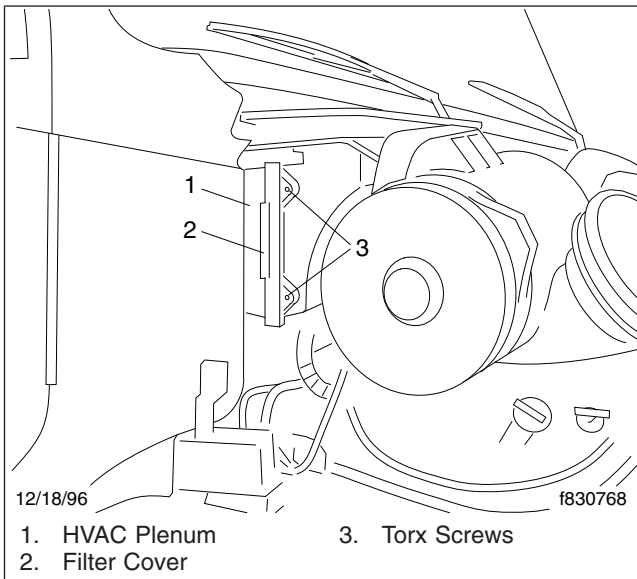

Fig. 2, HVAC Air Intake Plenum, Water-Valve Controlled
2. Remove the two Torx® screws that secure the HVAC air filter cover to the air intake plenum. See Fig. 2.